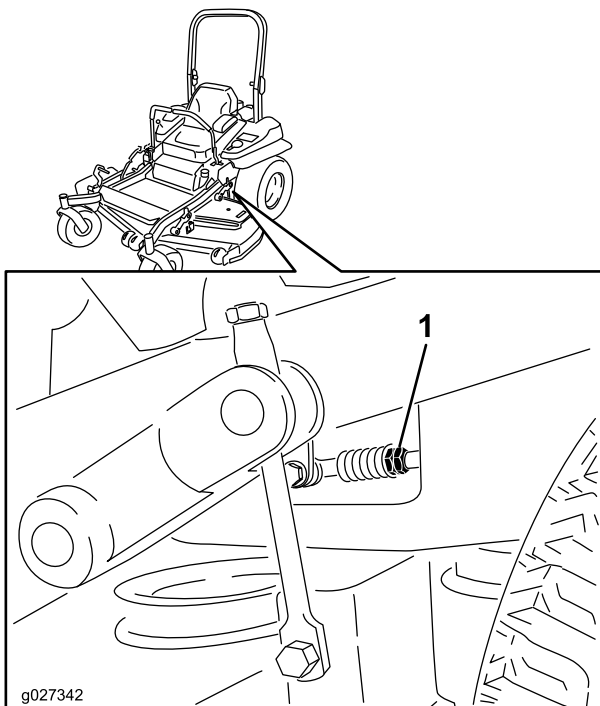

Figure 80
8. Adjust the pump-control rod lengths by rotating the double nuts on the rod in the appropriate direction until the wheels slightly creep in reverse (Figure 80).